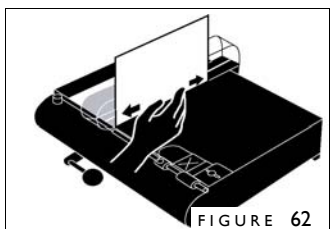

FIGURE 62
3. Fold your cover up to the left so it rests against the side of the Die Holder (figure 62). Run your finger back and forth at the bottom at the spine area of the cover so it makes a sharp fold at the bottom.